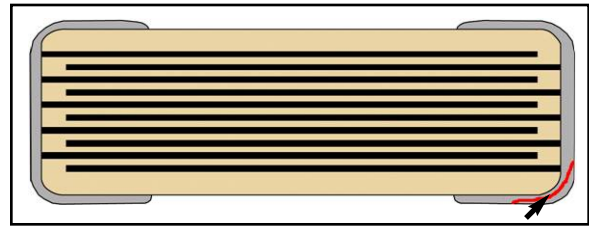

Figure 9. Flexible termination moves flex cracks to the end termination, away from the ceramic body.
- Finally, for **high** capacitance values (also called HiCV in the industry), KEMET offers the Flexible Termination (FT-CAP). KEMET applies a special conductive silver epoxy on both end terminations, between the copper/electrode interface and the nickel/tin plating. This special epoxy layer is essentially a tear-away solution, providing a path of least resistance for board flex stress. This solution acts to steer the potential flex crack away from the ceramic body, into the more benign area of the termination (See Figure 9). Technically, Flexible Termination can be applied to any commercial SMD (Surface Mount) product, but due to additional manufacturing costs (primarily materials and labor), the Flexible Termination is more cost effective when used on HiCV devices. KEMET’s Flexible Termination offers up to 5mm of board bend stress capability. To order this device, place an X for “Flexible Termination” in the 6th digit of the KEMET part number.